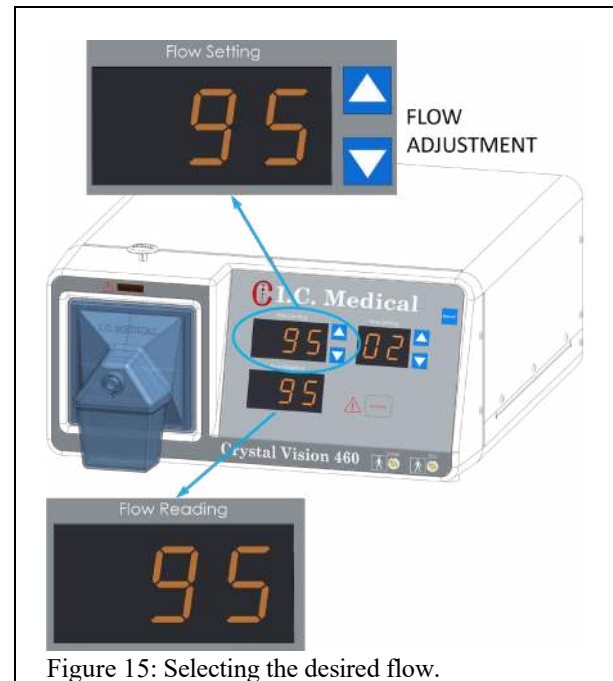

Figure 15: Selecting the desired flow.
6. **FLOW SETTING** control buttons (Figure 15) sets the maximum flow that is desired by the surgeon. This value is indicated on the **FLOW SETTING** display.
7. **FLOW READING** (Figure 15) is registering the amount of gas and vapor that is actually flowing at the present time. This value should be zero, when the vacuum pump is not turned on.